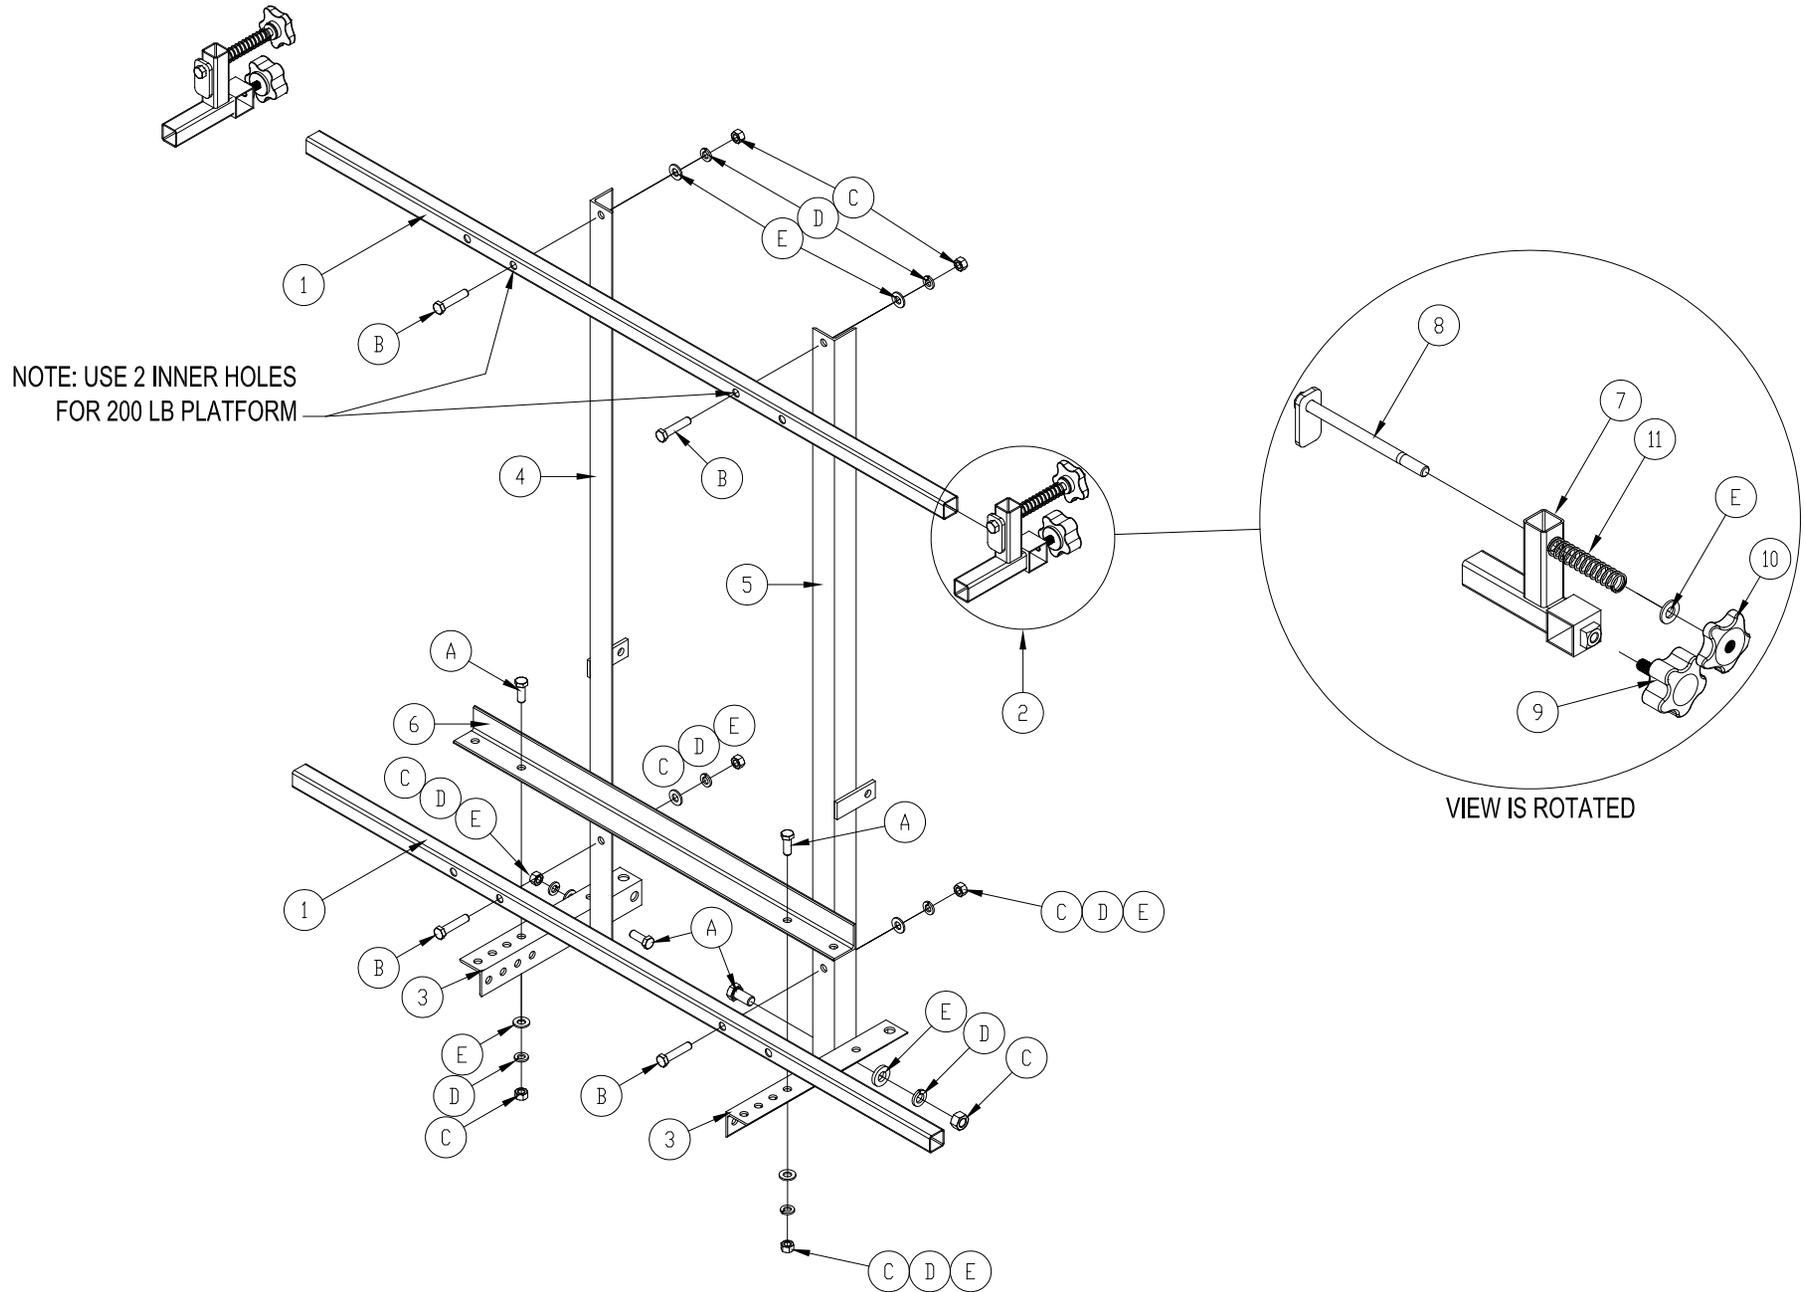

Figure 1A Assembly if Mounting onto 200 lb carriage.
1. Assemble the solar panel carrier as shown in Figures 1A & 1B. Do not tighten all of the hardware. The solar panel carrier can be used on a 200 and 400 pound capacity hoist. If mounting onto a 200 pound carrier, use the inner two holes on the frame tubes (1) and on the adjusting angle (6). If mounting to a 400 pound carrier, use the outer holes on the frame tubes and adjusting angle to mount onto the carriage.